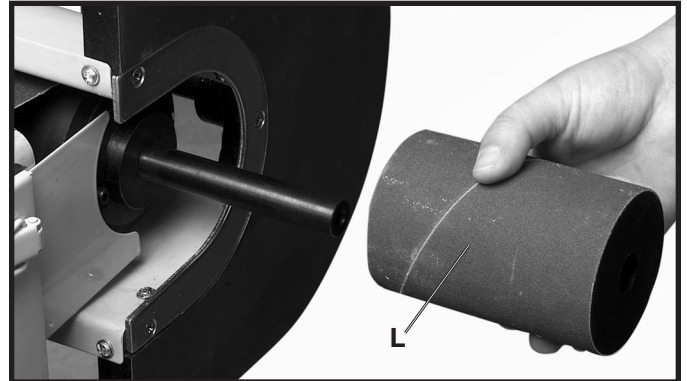

Fig. 25
8. Place one of the three rubber sanding drums and sand paper (L) Fig. 25 on the sanding spindle.